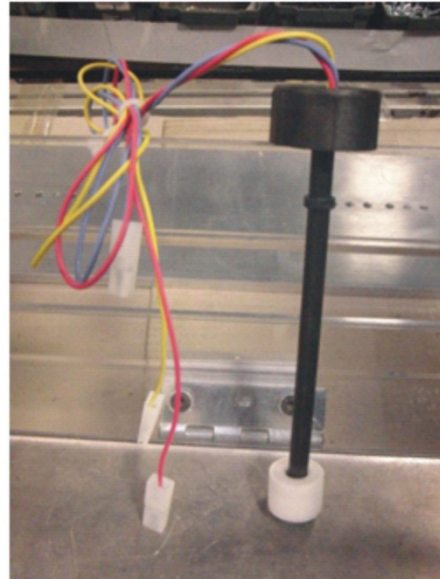

Fig. 16 : Electromechanical sensor
- Electromechanical (high voltage - Fig. 16); this acts as a power supply multi switch directly operating dashboard lights.